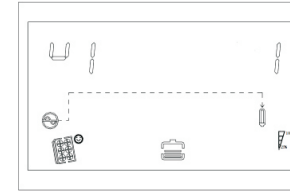

Figure 1-9 Display page 7
**Display page 7:** Software version displays the inverter system software version, as shown in Figure 1-9 (Software Version VER 01)